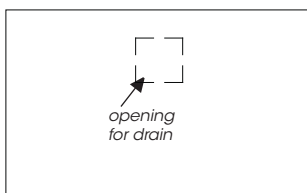

Figure 1
2. Determine where you will place your lavatory on the support surface/countertop, ensuring there is adequate space for the waste pipe. Make an opening in the support surface/countertop. (Figure 1)